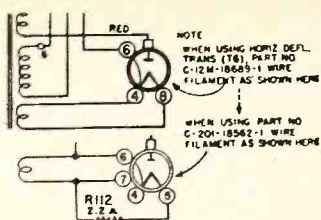

Fig. 3. Wiring for the 1X2 filament lead of the Gamble-Skogmo 94TV1-43-8940A.
**Code 16 or Group Numbers 6,700 to 8,999.** Video trap coil L19 was relocated and connected to pin 7 of the 12AU7 video amplifier, tube 8, and L16. Peaking coil L21 (A-16A-17961) was replaced with A-16A-18685 (white dot). The high-voltage capacitor and socket assembly (N-201-18161) was removed and replaced with a water tube socket (A-15C-18735), high-voltage ring (A-62C-18734), two insulators (A-5M-18733), and mounting hardware. A 2.2-ohm, 1/2-watt, wire-bound resistor (C-9C1-1067) or a filament choke (A-16A-18785) was added in series with the 1X2 filament lead as shown in Fig. 3.